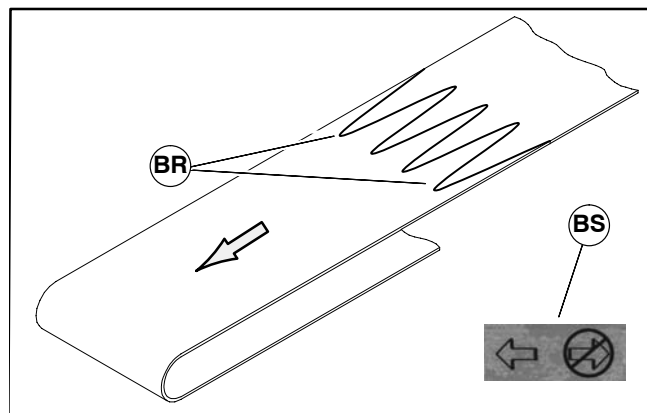

Figure 40
1. Orient belt so splice leading fingers (BR of Figure 40) point in the direction of belt travel as identified by the conveyor directional label (BS).
2. Orient belt so splice leading fingers (BR of Figure 40) point in the direction of belt travel as identified by the conveyor directional label (BS).